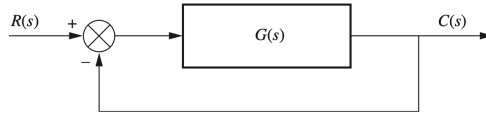

FIGURE P8.3
5. Sketch the root locus BY HAND for the unity feedback system shown in Figure P8.3 for the following transfer functions: